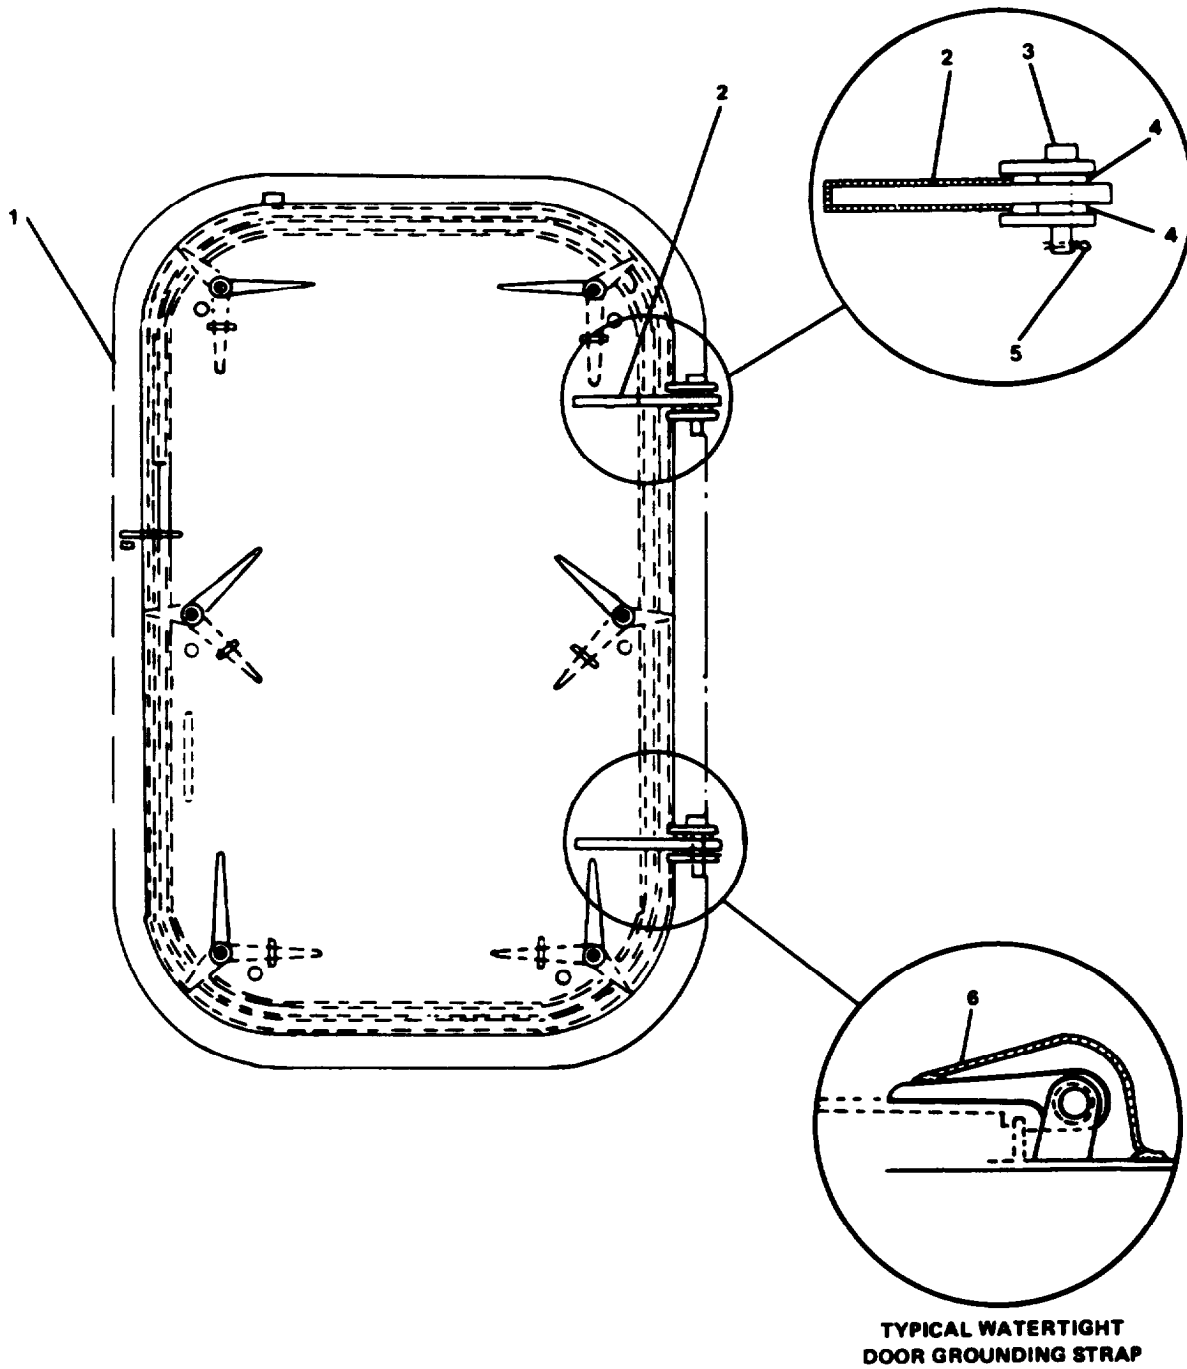

FIGURE 2-174. Replace Watertight Door, Six Dogs (30 x 60)
- a. Remove (if installed) grounding straps (6, FIGURE 2-174) from hinge blades (2) and from bulkhead.
- b. Open door (1).
- a. Place door (1, FIGURE 2-174) in position on frame.
- b. Install flat washers (4) and align holes.
- g. Install (if removed in step a of removal procedure) grounding straps (6, FIGURE 2-174) from hinge blades (2) and from bulkhead.